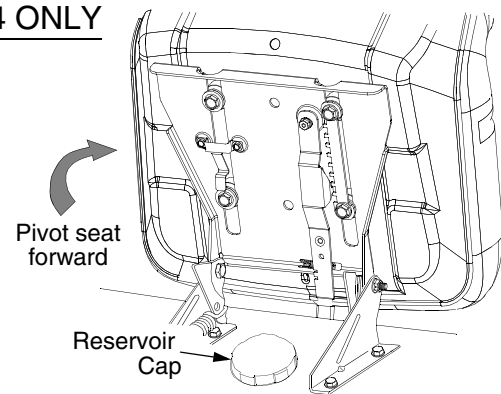

Figure 23
- Clean the reservoir cap and the area around the cap to prevent debris from contaminating the transmission oil. See Figure 23.